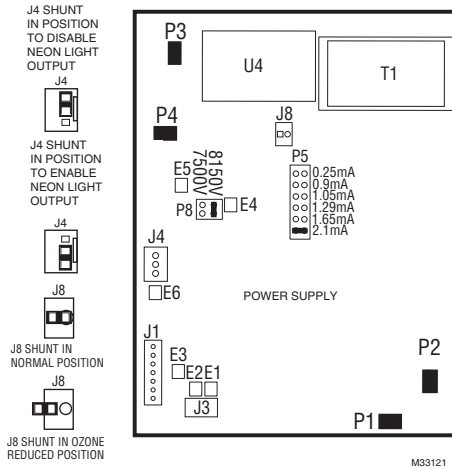

Fig. 18. Components of replacement power supply.
⚠ 3 FOR UNITS WITH NEON LIGHT CONNECTED TO E5 AND P6. REMOVE SHUNT FROM CONNECTOR J4. SEE COMPONENTS OF REPLACEMENT POWER SUPPLY FIGURE 18.
- d. Locate J8 Shorting Bar on the power supply. See Fig. 18. Remove the shorting bar and reinstall on only one pin.